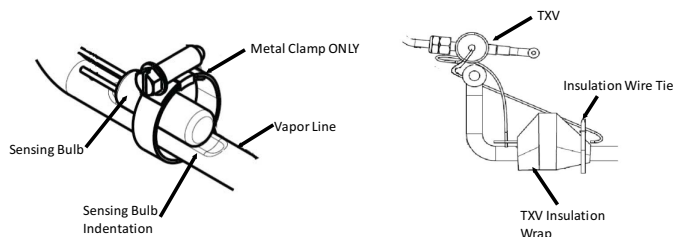

Fig. 1 – TXV Bulb
- Make sure the TXV bulb is securely fastened with a metal clamp/strap and wrapped in the indentation on the vapor line tube (Fig. 1).